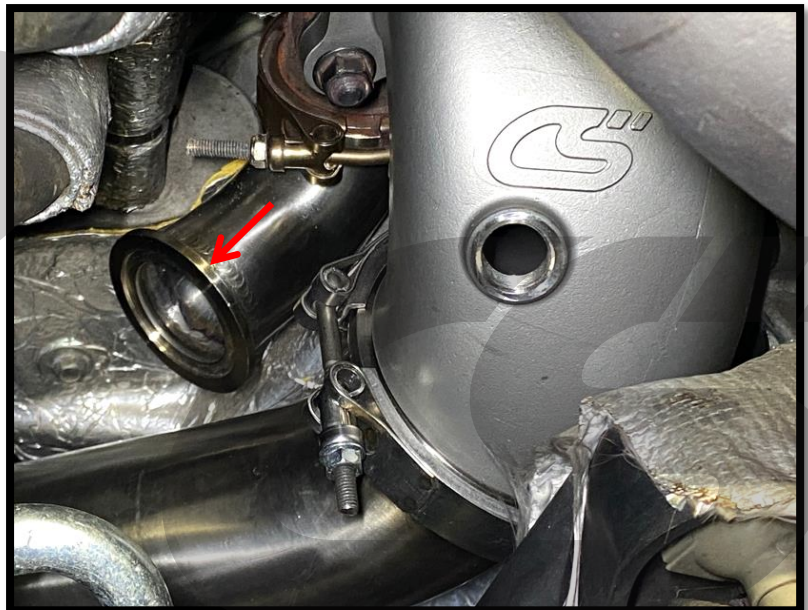

Figure 11a
- b) Begin by installing the EWG elbow supplied with your CS EWG turbine housing in the orientation shown in **Figure 11a**. Secure with the clamp that came with your EWG housing but leave the clamp loose enough to let the elbow rotate.